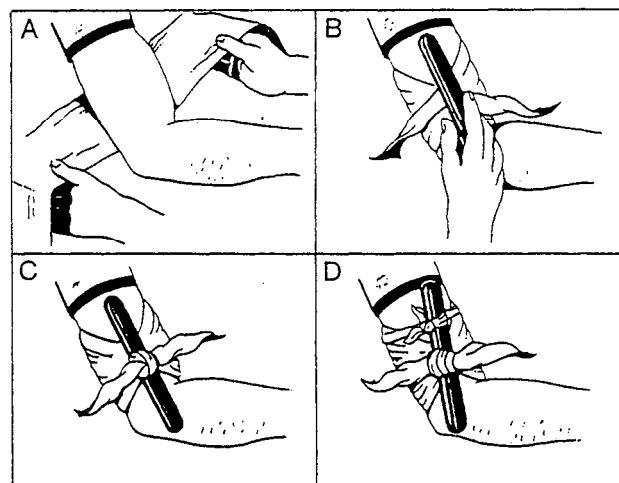

Figure 10-40.—Applying a tourniquet.
To apply an emergency tourniquet made from material resembling a cravat or neckerchief, wrap the material once around the limb, and tie an overhand knot. Place a short stick on the overhand knot, and tie a square knot over it. Then twist the stick to tighten the tourniquet. The stick may be tied in place with another strip of material. Figure 10-40 demonstrates the proper method for applying a tourniquet.
4. To tighten, insert a small stick or smaller object under the cross of the bandage on the shoulder and twist. Twist only until the bleeding is controlled. Then secure or anchor the stick to prevent untwisting (fig. 10-40, view D).